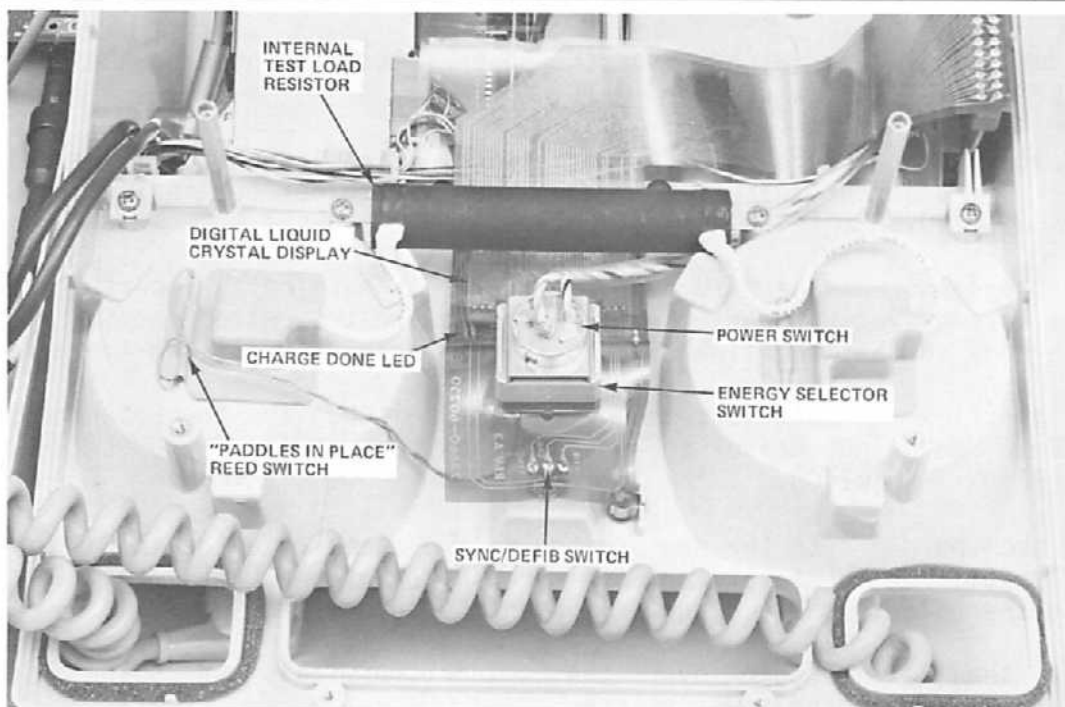
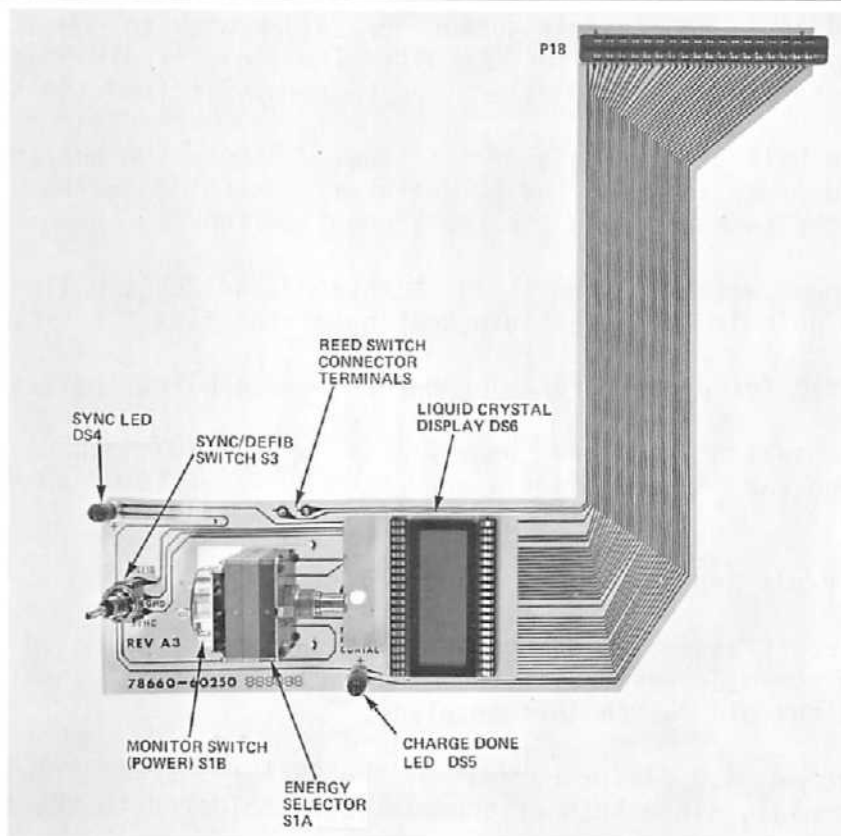

Figure 4-24.
Figure 4-25. Flex Circuit Assembly(A-16).
1. This switch is mounted under the apex paddle pocket. The switch is mounted under a plastic cover which is secured to the paddle pocket by a double-side adhesive foam gasket (see Figure 4-24).
2. This switch is mounted to the lower front panel but is electrically connected to the flex circuit (see Figure 4-24). Exercise caution when removing the switch from the flex circuit. Unsolder the flex circuit with the switch in place (see step 4).
1. These include the SYNC and CHARGE DONE LED's, the SYNC/DEFIB switch and the LCD (see Figure 4-25).
4. See Figure 4-24. Use a solder sucker or solder wick to unsolder the switch. Be careful not to overheat the flex circuit. The flex circuit must be loose from all three switch terminals before attempting to remove it from the switch.
4.2.27 Flex Circuit Replacement (Refer to Figure 4-25)
The LCD holder is soldered to the flex circuit. Figure 4-24 shows the flex circuit as it appears when installed. Figure 4-25 is the flex circuit assembly.